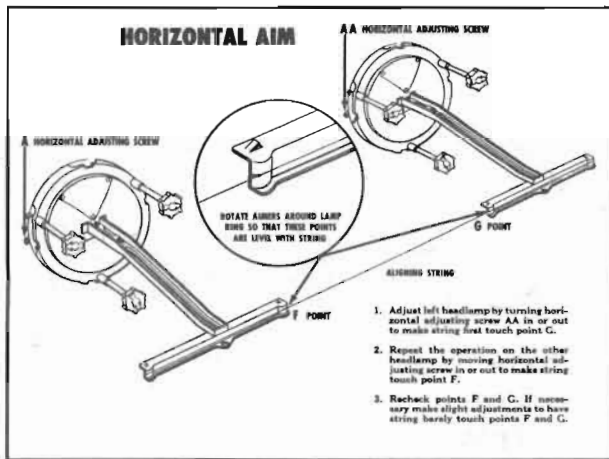

Figure 10-60—Horizontal Aim
1. Adjust left headlamp by turning horizontal adjusting screw AA in or out to make string first touch point G. Final adjustment of screw should be made in a clockwise direction. See Figure 10-60.
2. Repeat operation on the other headlamp by moving horizontal adjusting screw in or out to make string touch point F. Final adjustment of screw should be made in a clockwise direction. See Figure 10-60.